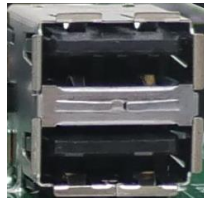

Figure 3-34: USB 2.0 Connectors
- CN Location:** See **Figure 3-34**